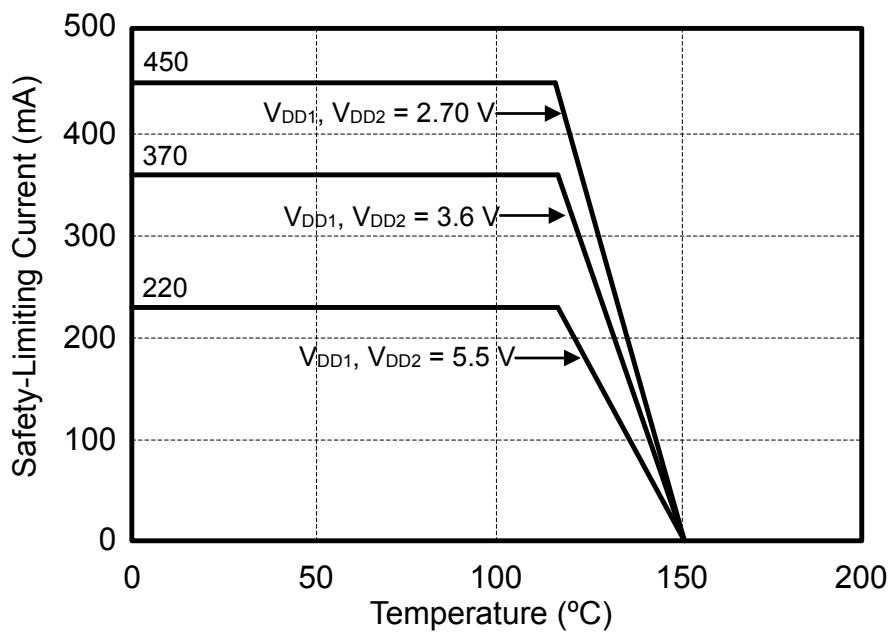
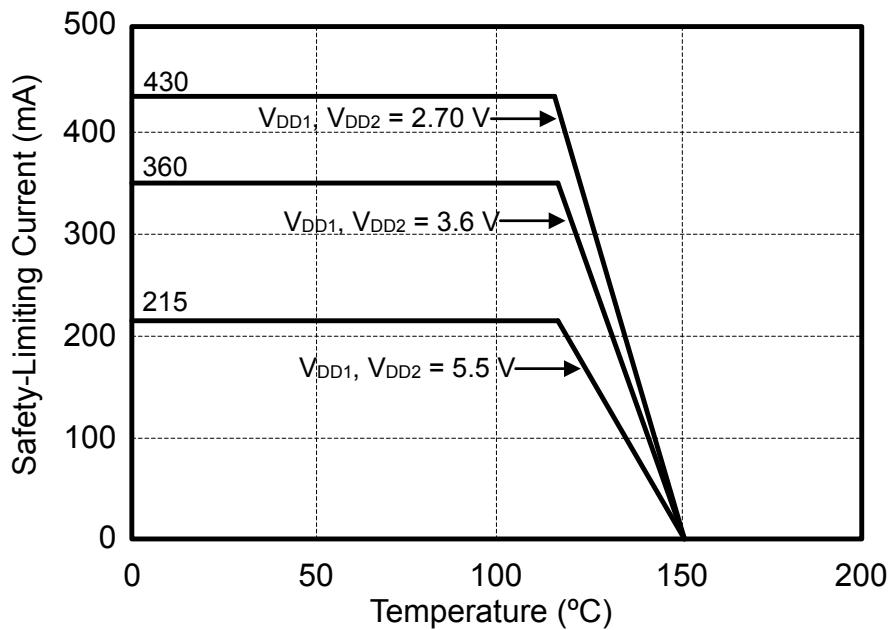

Figure 4.4. (WB SOIC-16) Thermal Derating Curve, Dependence of Safety Limiting Values with Case Temperature per VDE 0884-10
Figure 4.5. (NB SOIC-16, QSOP-16) Thermal Derating Curve, Dependence of Safety Limiting Values with Case Temperature per VDE 0884-10
1. Maximum value allowed in the event of a failure; also see the thermal derating curve in Figure 4.4 (WB SOIC-16) Thermal Derating Curve, Dependence of Safety Limiting Values with Case Temperature per VDE 0884-10 on page 24 and Figure 4.5 (NB SOIC-16, QSOP-16) Thermal Derating Curve, Dependence of Safety Limiting Values with Case Temperature per VDE 0884-10 on page 24.